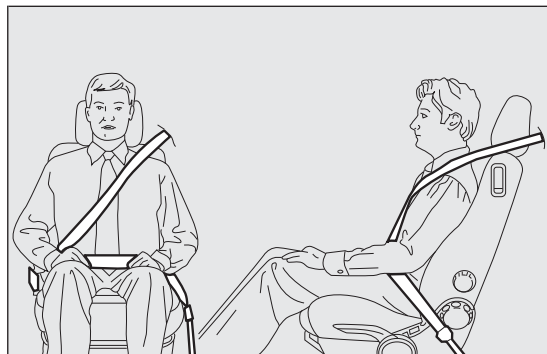

fig. 100
**IMPORTANT** The belt must not be twisted. The upper part must cross the shoulder and the chest diagonally. The lower part must fit over the hips (as shown in fig. 100) rather than the abdomen of the passenger. Do not use devices (clips, etc.) to hold the seat belt away from your body.